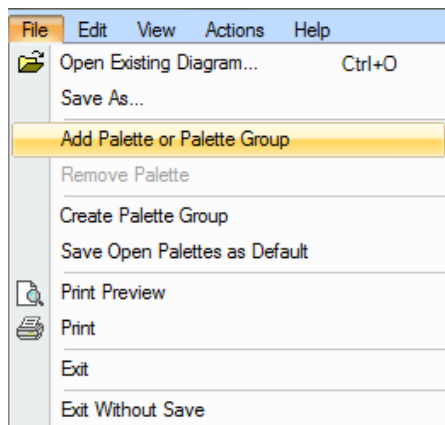

Figure 138. File Menu – Add Palette or Palette Group
1. Select **Add Palette or Palette Group** from the **File** menu, as shown in Figure 138. The TraCS palette files display.